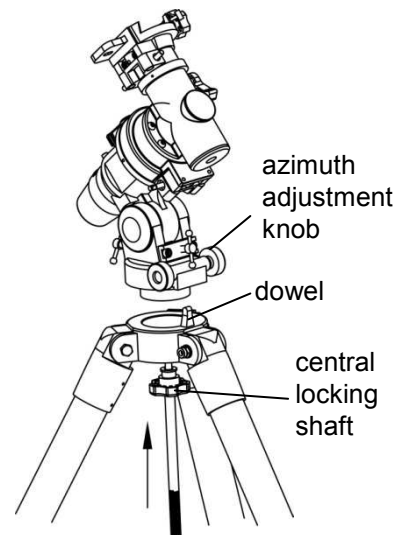

Fig 2
1.2 Attaching the mount (fig 2)